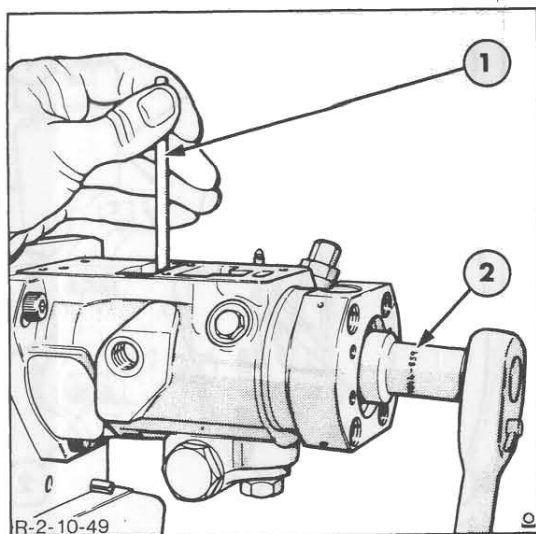

Figure 51
1. To prevent the drive shaft from turning, insert a suitable tommy bar of 4mm (0.157in) diameter through the front aperture in the pump housing and through the hole in the drive shaft as shown, Figure 51.